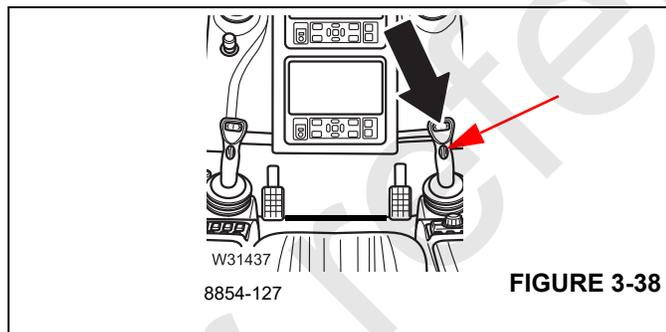

FIGURE 3-38
Left:	High-speed mode on, off when released (Figure 3-38)
The Hoist Rotation Indicators for the auxiliary and main hoist are located on the controller. The high speed switch is at the top of the controller (9), (Figure 3-36). The rotation indicators are on the back face of the controller as shown by the red arrow or vertical oval below the high speed switch (Figure 3-38). Each indicator is electronically driven by an input signal from a sensor attached to its related hoist and an output signal from a control module. The Hoist Rotation Indicator pulses on the auxiliary or main hoist controller when its related hoist is operating.